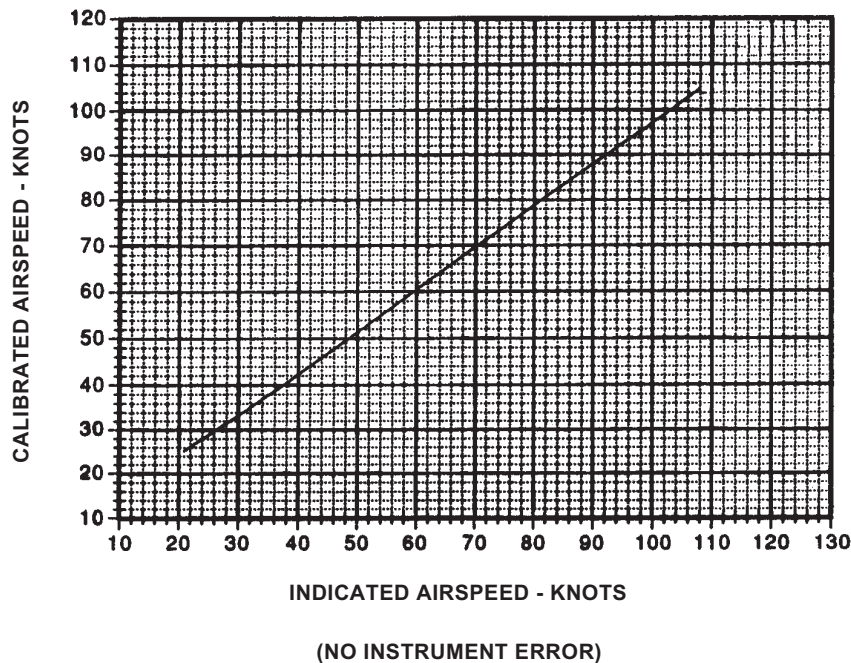

Figure 5-3. Airspeed Calibration Curve
- Indicated airspeed (IAS) corrected for position and instrument error equals calibrated airspeed (CAS). (See Fig. 5-3, Airspeed Calibration Curve.)